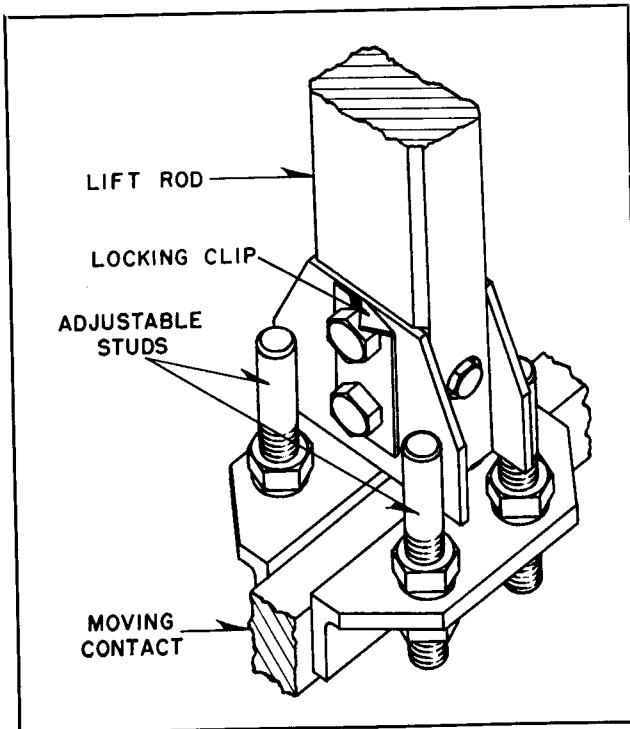

FIG. 10. Moving Contact Assembly
**Moving Contacts.** The U-shaped moving contact is fastened to the bottom of the lift rod by four sets of nuts and studs as shown in Fig. 10. These should be set so that the crossarm portion of the moving contact is horizontal and the upright portions lie in a vertical plane. This can be done